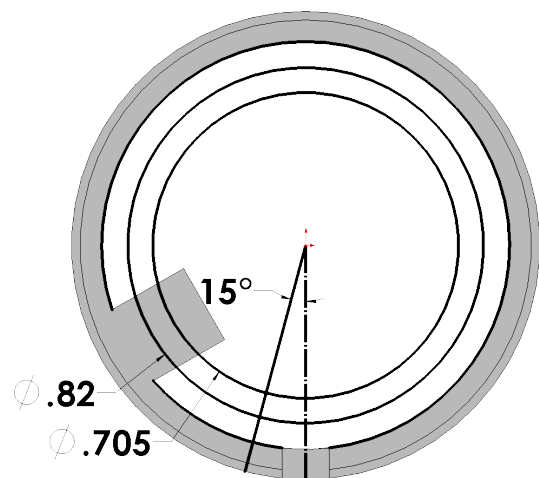

Fig. 86
Step 10. Click **Smart Dimension**  (S) on the Sketch toolbar.
Step 11. Dimension diameters, **Fig. 86**.